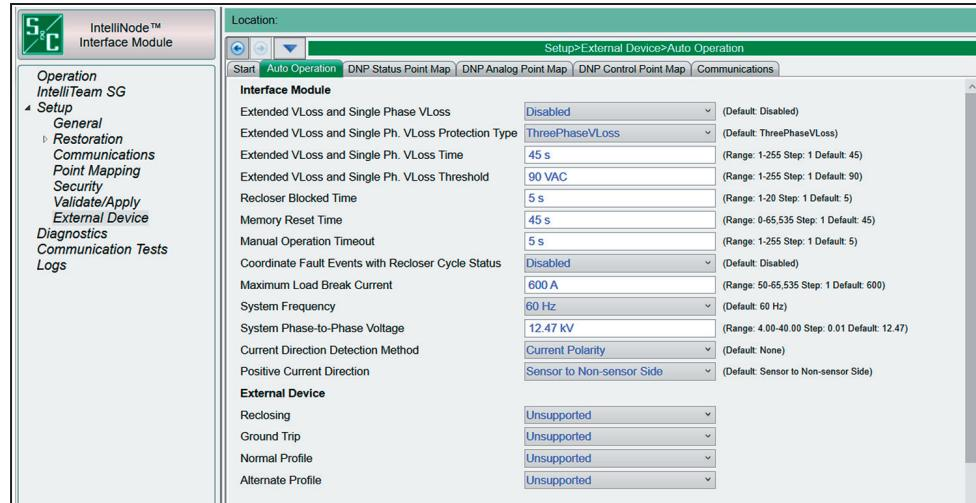

Figure 5. The IntelliNode Interface Module *Setup>External Device>Auto Operation* screen.
STEP 1. Open the IntelliLink Setup Software and go to the *Setup>External Device>Auto Operation* screen shown in Figure 5.